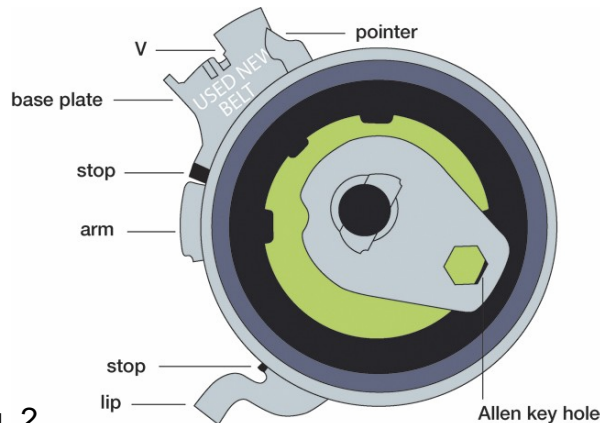

Fig. 2
- Turn tensioner (with Allen key) anti-clockwise (while holding the bolt in place) till pointer is in line with (not passing) right hand side of base plate (fig. 2)